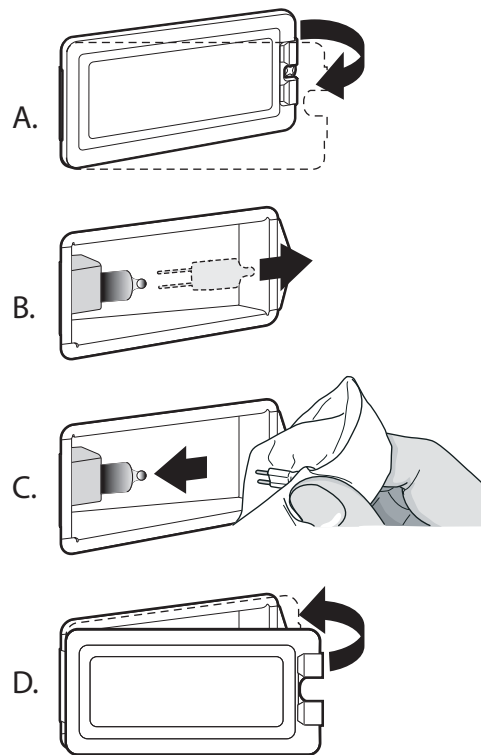

Figure 33: Bulb Replacement
3. Slide the tip of a flat blade screw driver between the fixing glass lens cover and the lamp housing (*Figure 33, A*).
6. Remove the bulb by grasping and sliding the bulb straight back until the two prongs have cleared the ceramic holder (*Figure 33, B*).
8. Press down to seat the bulb (*Figure 33, C*).
9. Slide the protective lens into the holder clip and push the other end until the lens snaps back into the housing (*Figure 33, D*).